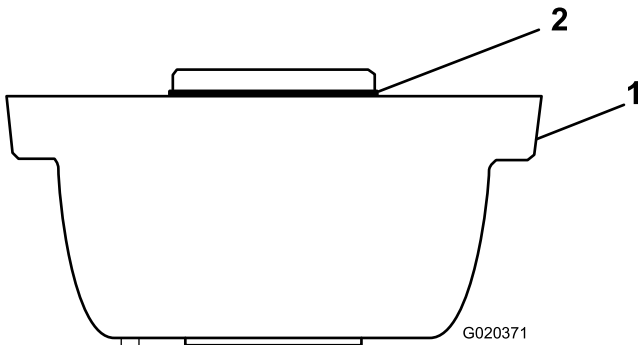

Figure 4
**Note:** Ensure that the O-ring is properly positioned in the roller-brush housing (Figure 4).